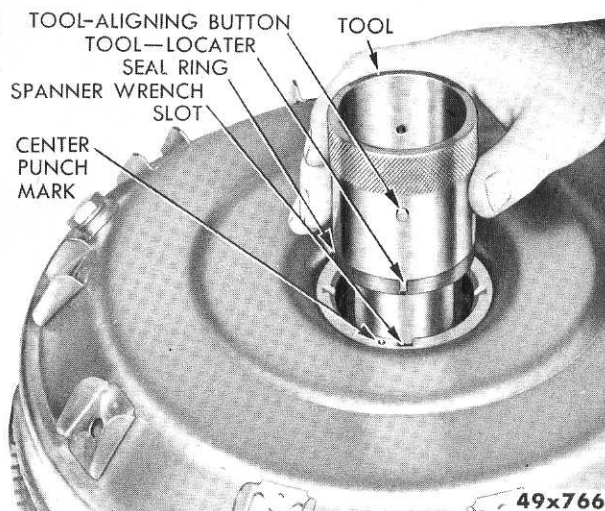

Fig. 14—Locating Seal Ring in Seal Housing
- (5) Slide aligning tool and seal ring assembly into the seal housing, as shown in Figure 14. Lower the assembly and, at the same time, align the button of the tool with the spanner wrench slot nearest the center-punch mark.